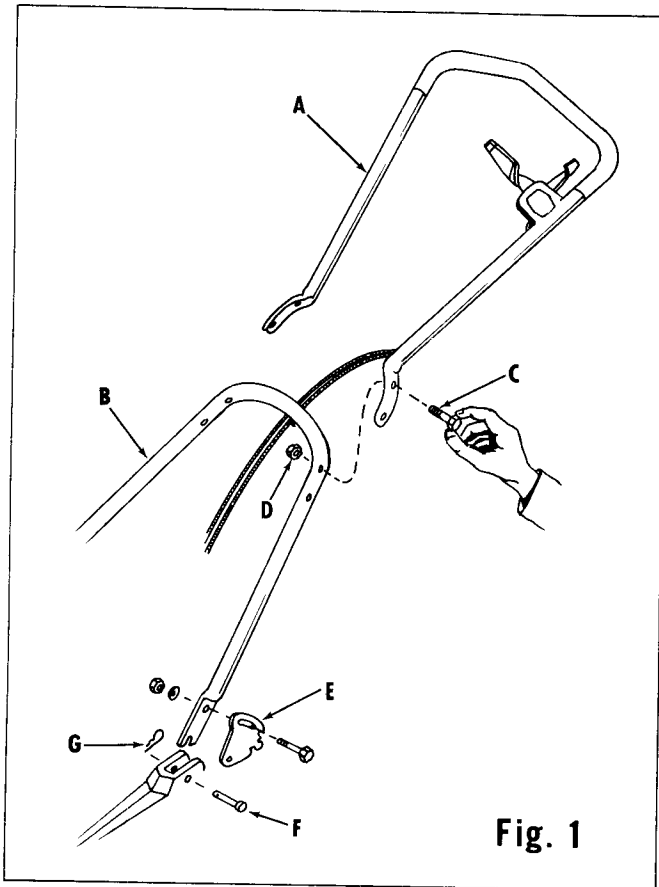

Fig. 1
The handle is shipped in two halves, an upper half (A) (see Figure 1) and a lower half (B). Before mounting handle to the mower, join the halves securely with the bolt (C) and the nut (D) found in the envelope. Next install the handle quadrants (E) in the mower frame and fasten with the clevis pin (F) and hairpin cotter (G). Then mount the handle in position loosely with the handle quadrants (E) on the outside. Adjust the handle to the most convenient height by raising or lowering it. Then tighten all mounting bolts securely.